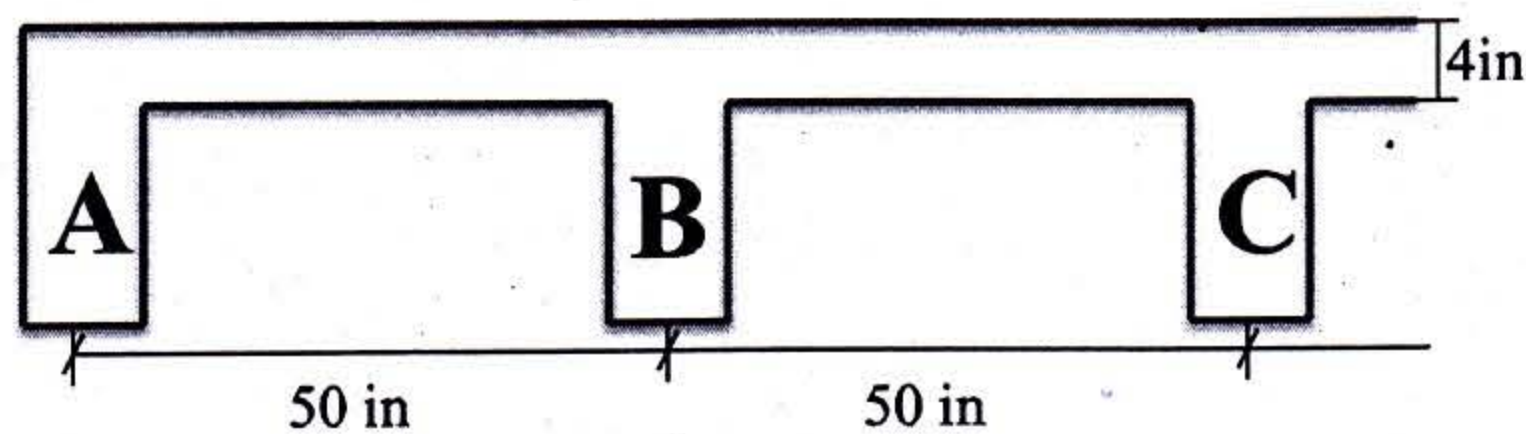

Figure: 05
(b) A floor system, shown in Figure: 05, consists of a 4 in. concrete slab supported by continuous T-beams (50 in. on centers). Web dimensions, as determined by negative-moment requirements at the supports are $b_w = 10$ in. and $d = 18$ in. (17)